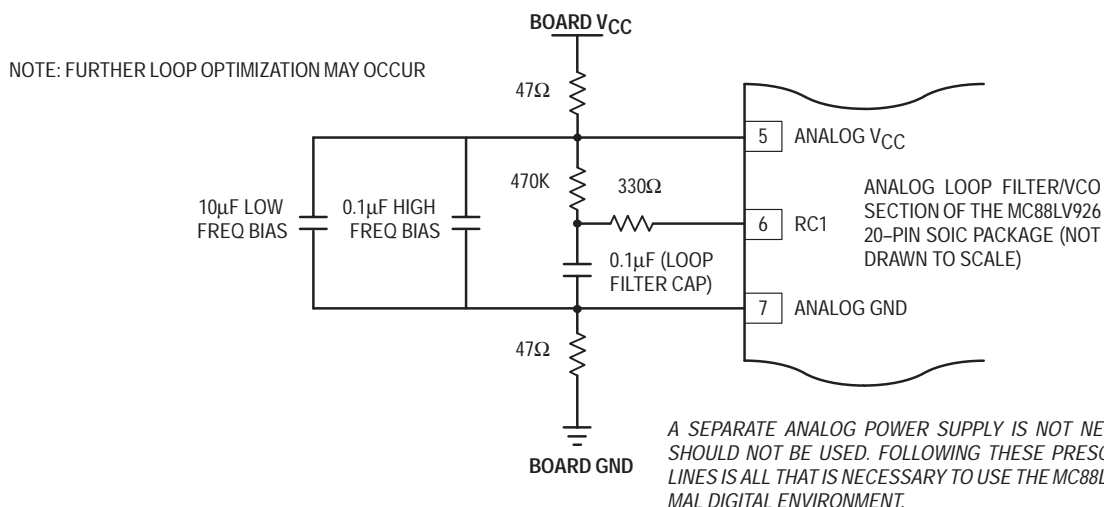

Figure 6. Recommended Loop Filter and Analog Isolation Scheme for the MC88LV926
- Figure 6. shows a loop filter and analog isolation scheme which will be effective in most applications. The following guidelines should be followed to ensure stable and jitter-free operation:
purpose of the bypass filtering scheme shown in Figure 6. is to give the 88LV926 additional protection from the power supply and ground plane transients that can occur in a high frequency, high speed digital system.
2. In addition to the bypass capacitors used in the analog filter of Figure 6., there should be a 0.1 μ F bypass capacitor between each of the other (digital) four V_{CC} pins and the board ground plane. This will reduce output switching noise caused by the 88LV926 outputs, in addition to reducing potential for noise in the 'analog' section of the chip. These bypass capacitors should also be tied as close to the 88LV926 package as possible.